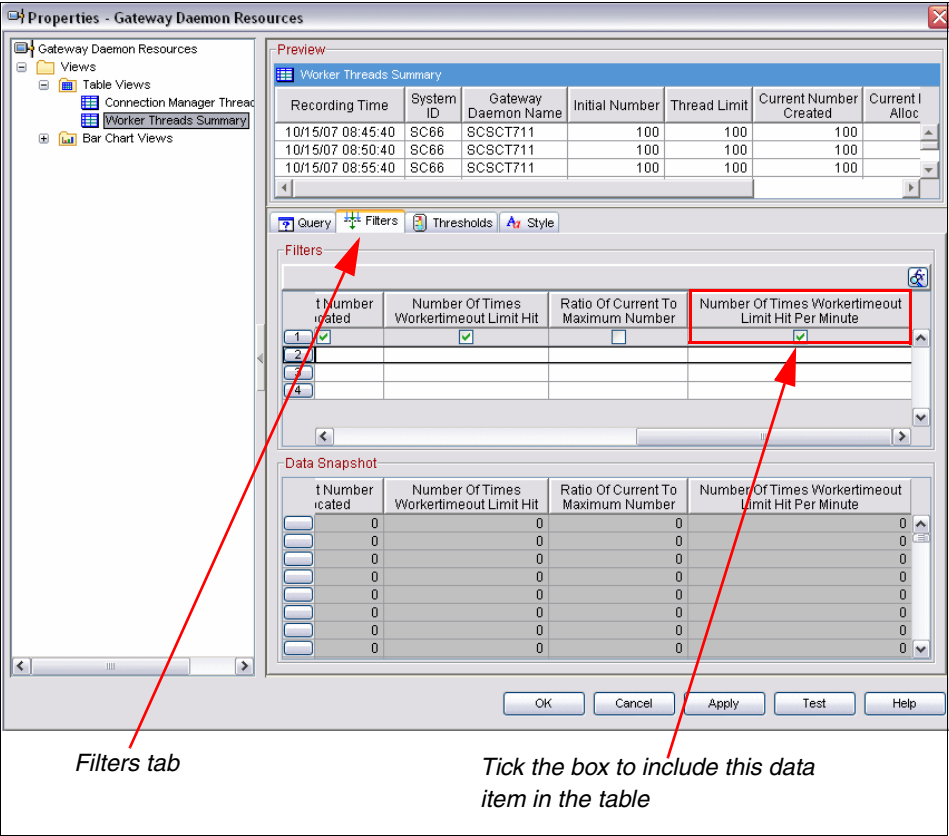

Figure 8-14 Properties - Gateway daemon Resources
2. Select **Properties**. The Gateway daemon Resources window appears, as shown in Figure 8-14 on page 317.
2. Selected **Properties**. The Gateway daemon Resources window appears, as shown in Figure 8-14 on page 317.